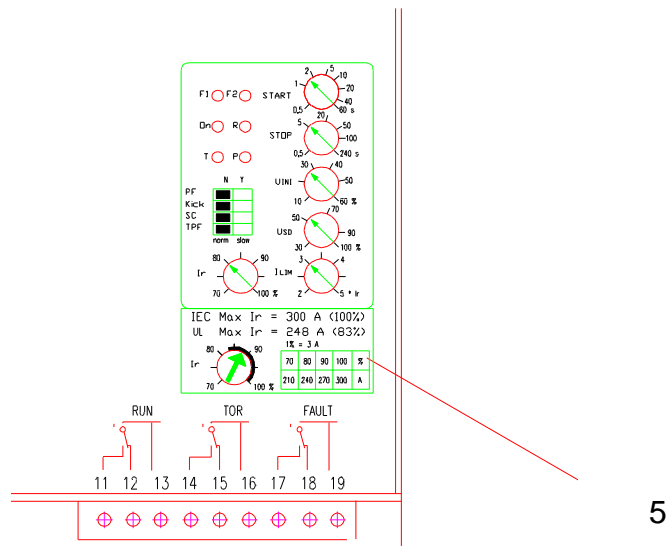

Fig3.
- Remove the terminals (1) and the gable (2).
- Disconnect the cables from the current transformers (3) from the PCB (4).
- Remove the old current transformers (3) and mount the new.
- Connect the cables from the current transformers (3) on the PCB (4).
- Mount the gable (2) and the terminals (1) again.
- Change the label (5) for the current setting (see fig 3).